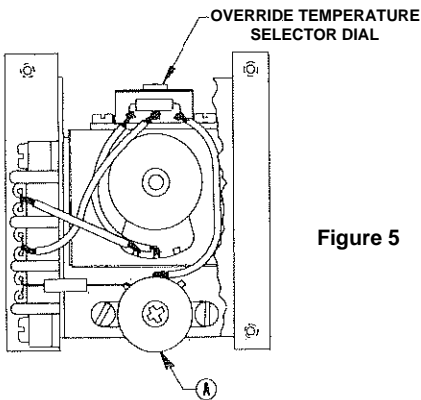

Figure 5
**If calibrating the Remote Temperature Selector** - if measured temperature is below set temperature, rotate the calibration potentiometer (A), Figure 5, clockwise until the correct temperature is obtained. If the temperature is above the set point, the potentiometer (A) should be turned counter-clockwise. Proceed slowly with the above steps so as to allow the temperature measuring instrument to catch up with the change in temperature.